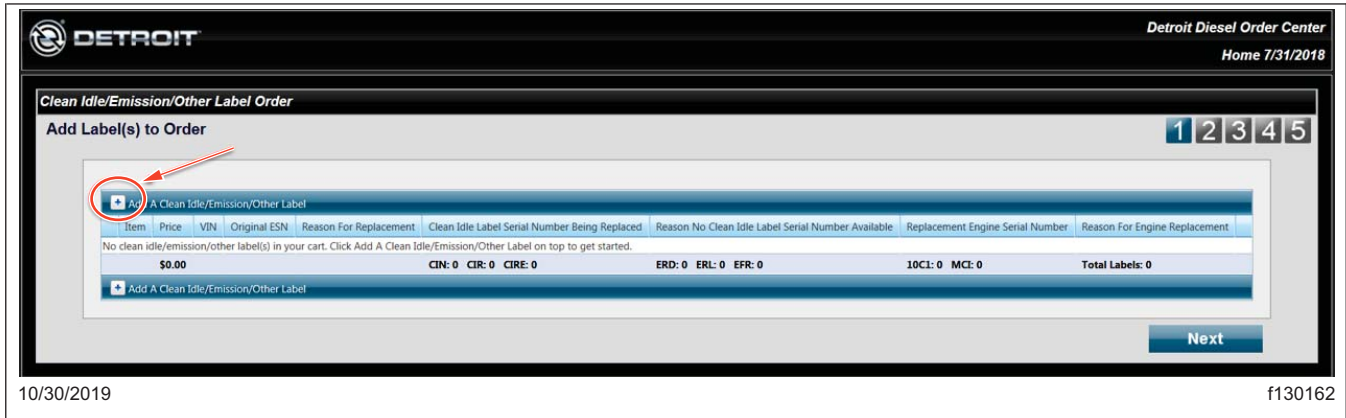

Fig. 10, An Example Shown to Order the Campaign Label
- 2.7 Click the "+" symbol next to "Add a Clean Idle/Emission/Other Label". See Fig. 10.